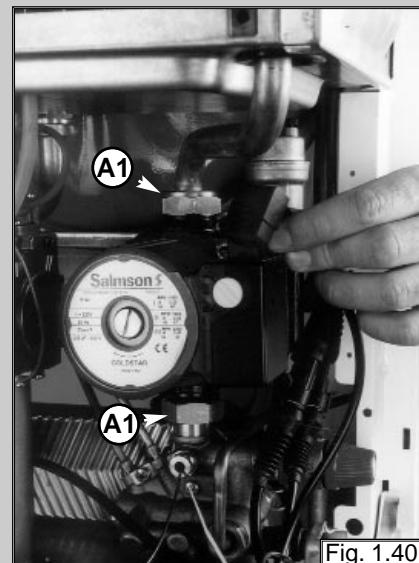

Fig. 1.40
- 2.** Release the nuts "A1" and remove the pump (see fig. 1.40).